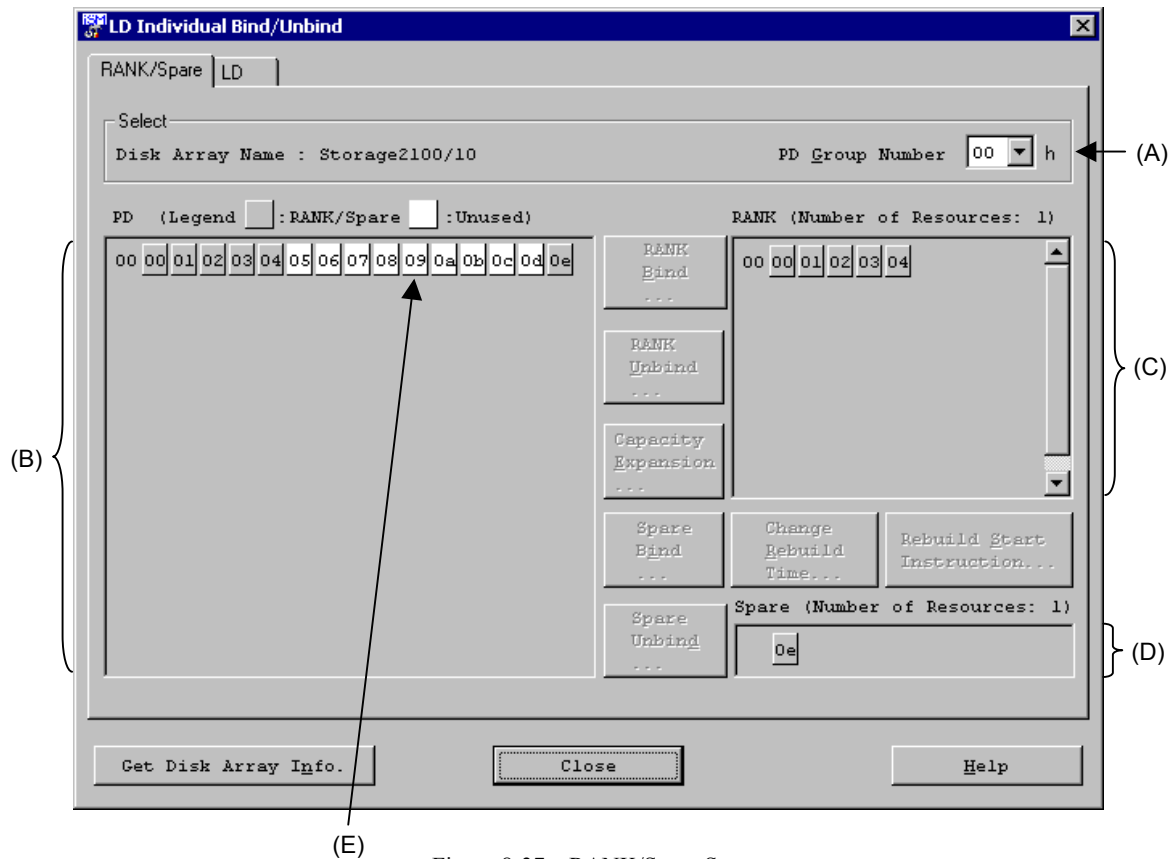

Figure 8-37 RANK/Spare Screen
The RANK/Spare screen, which is shown in Figure 8-37, describes the content based on its encircled numbers. Refer to (2) “Operation” to know how to operate the screen.